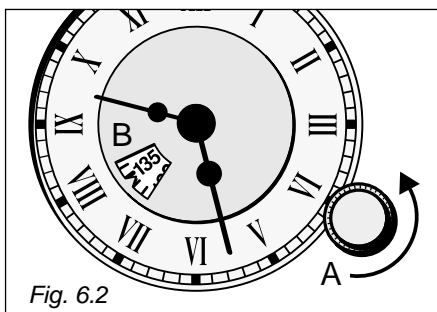

Fig. 6.2
- Set the cooking time by rotating knob “A” anticlockwise until desired time in window “B” coincides with the indicator (Fig. 6.2).